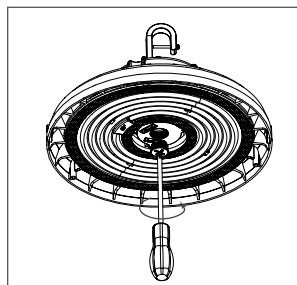

FIGURE 6
- A) Unscrew the plug screws and remove, exposing the base. (FIGURE 6 & 7)